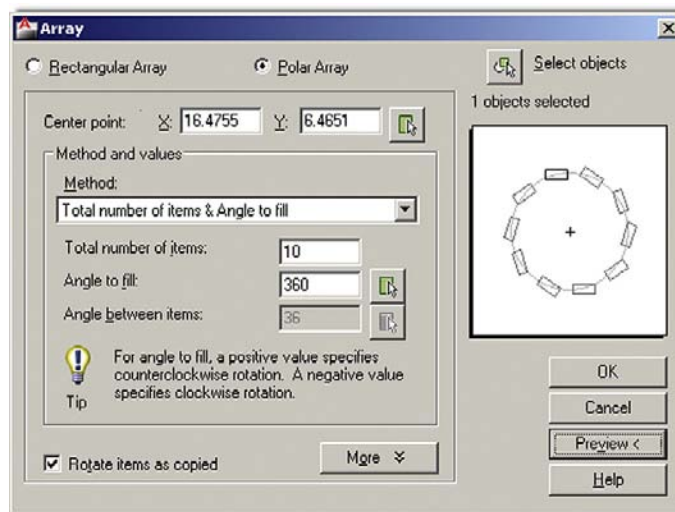

FIGURE 8.3
Step 2. You will see the Array dialog box shown in Figure 8.3.